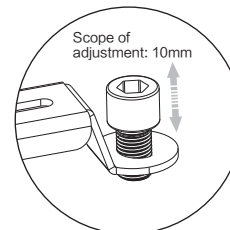

figure 16
4. Rotate the adjustable nuts (4-3) for adjusting the height of installation arms (4-2) if the installation holes are not at the same level as figure 16.